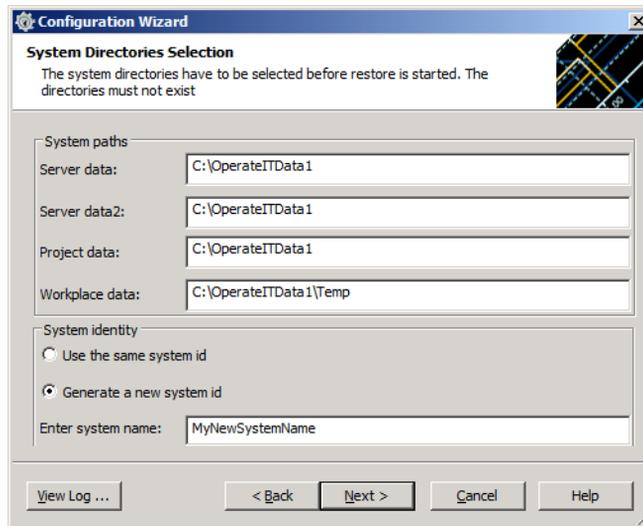

Figure 57. The Restore Selection in the Configuration Wizard
1. Click the **Select Path** button (Figure 57) to enter the path for available backups.
Backups of older versions of the 800xA System will show up in the backup list in the Restore Selection dialog, (Figure 57), in the same way as backups from a system of the same version.